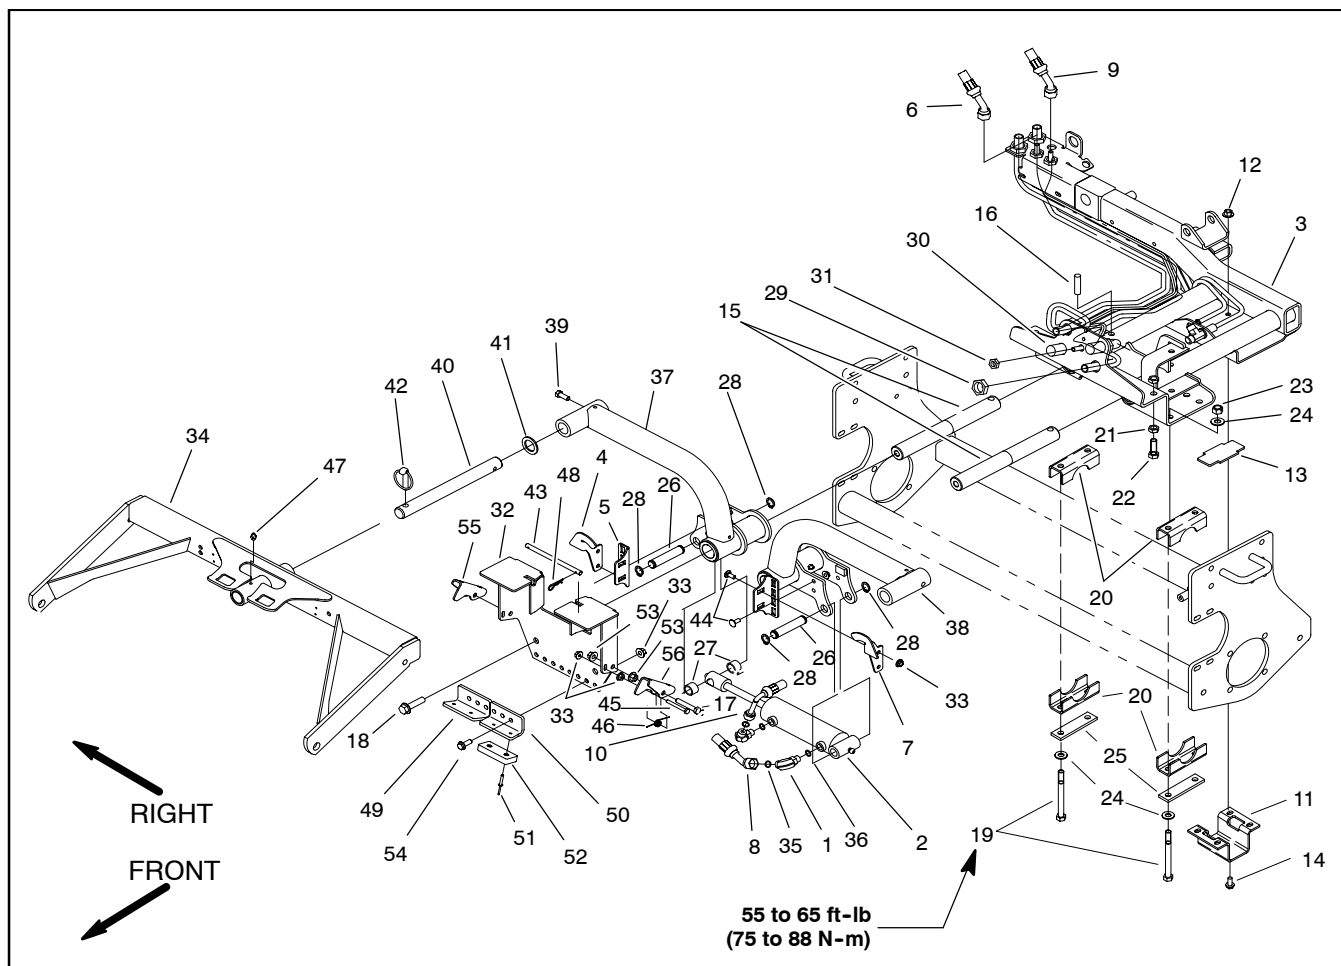

Figure 63
Removal (Fig. 63)
3. Remove front lift cylinder from the lift arms and machine using Figure 63 as guide.
Installation (Fig. 63)
2. Install front lift cylinder to the lift arms and machine using Figure 63 as guide.